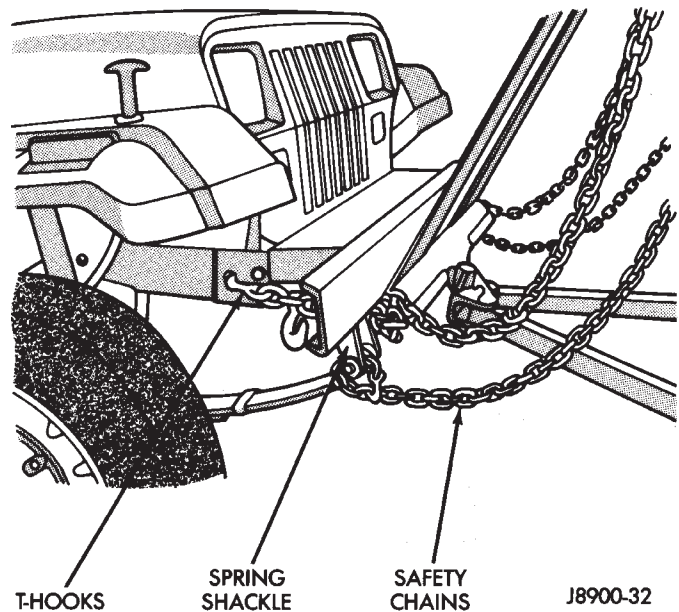

Fig. 13 Sling-Type, Front-End Towing (YJ Vehicles)
(2) Attach the T-hooks to the slots in the front end of each frame rail (Fig. 13).
(3) Position each safety chain over the top of each front spring and inboard of each front spring shackle.
(4) Double wrap each chain.
(5) Position the sling crossbar under the front bumper.